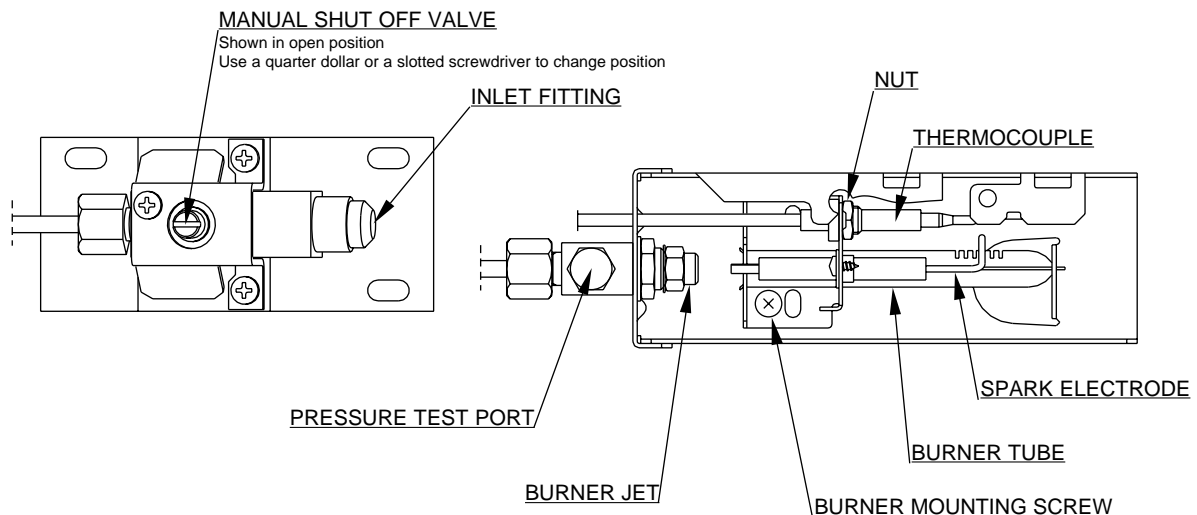

FIG. 11
- C. The LP gas pressure should be checked and the main regulator readjusted if pressure is incorrect. The correct operating pressure is 11 inches of water column. The correct place to take the LP gas pressure is at the test port just ahead of the burner jet. (See FIG. 11).
3. Turn manual shutoff valve to OFF. (See FIG. 11).
6. Remove the burner mounting screw and remove the burner assembly. (See FIG. 11).